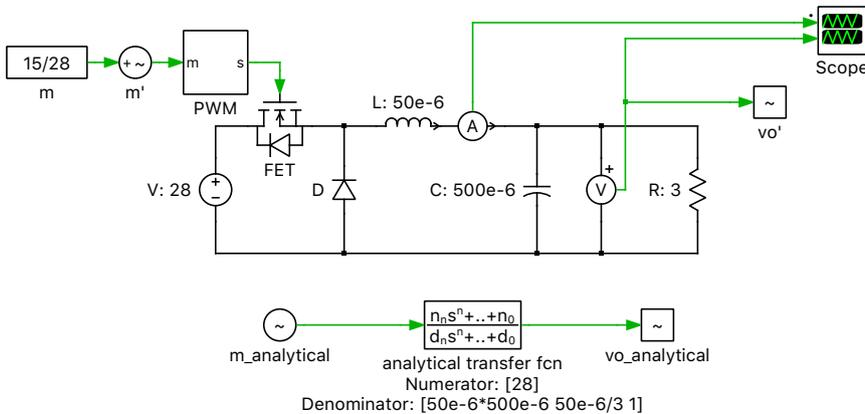

Figure 7: Schematic of the buck converter with small signal blocks and analytical transfer function
There is an additional analytical transfer function block in the file analysis_tools_openloop_2.plecs, as shown in Fig. 7. This is the analytical transfer function of the buck converter.
- 1 Choose the pre-configured Impulse Response Analysis, and under the **Perturbation** and the **Response** parameters, choose m' and vo' blocks, respectively, from Fig. 7. Then start the analysis. Save the current trace by clicking on the icon in the plot window.
- 2 Next, choose the $m_{\text{analytical}}$ and $vo_{\text{analytical}}$ blocks in the model, that are also shown in Fig. 7, and repeat the analysis.